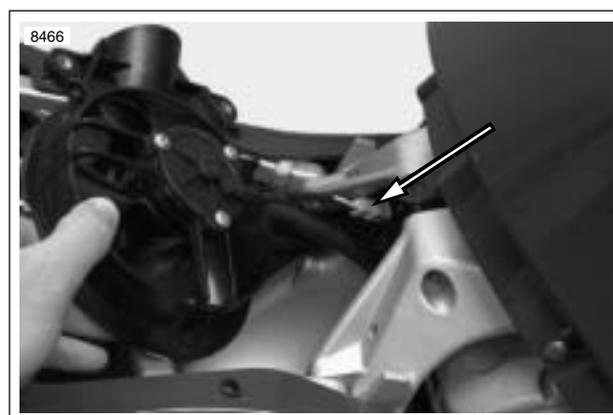

Figure 4-51. Cooling Fan Connector [97]
6. See Figure 4-51. Disconnect cooling fan connector [97].
1. See Figure 4-51. Connect cooling fan connector [97].